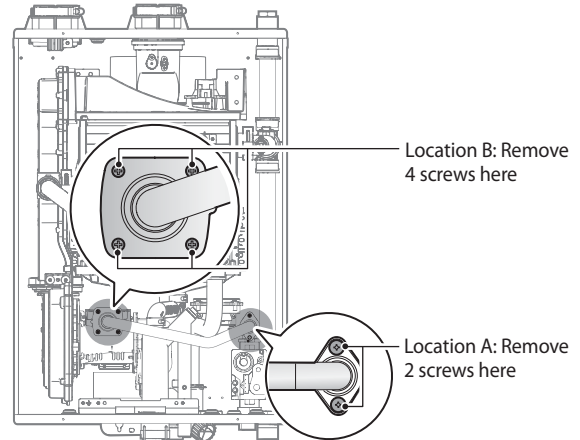

Figure 3. Detaching Gas Valve from Gas Inlet Pipe and Fan Motor Assembly
- Use a Phillips screwdriver to remove the two screws at location A - the connection below the gas valve where it connects to the pipe. See Figure 3 for reference. Once the screws are removed, carefully separate the pipe from the gas valve.